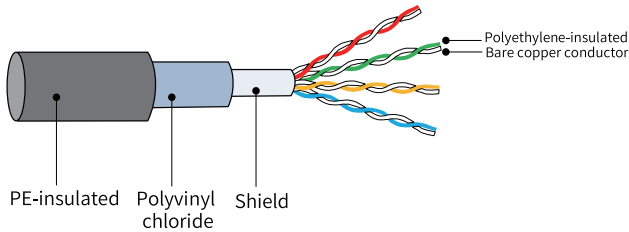

Figure 3-51 Shielded twisted pair
- It is recommended to use shielded twisted pair cables (as shown in "Figure 3-51 " on page 124 ) for differential encoders. Wire cables according to the difference, and select the appropriate cross-sectional area of the cable according to the distance between the encoder and the drive. For specific requirements, see "Table 3-46 " on page 124.